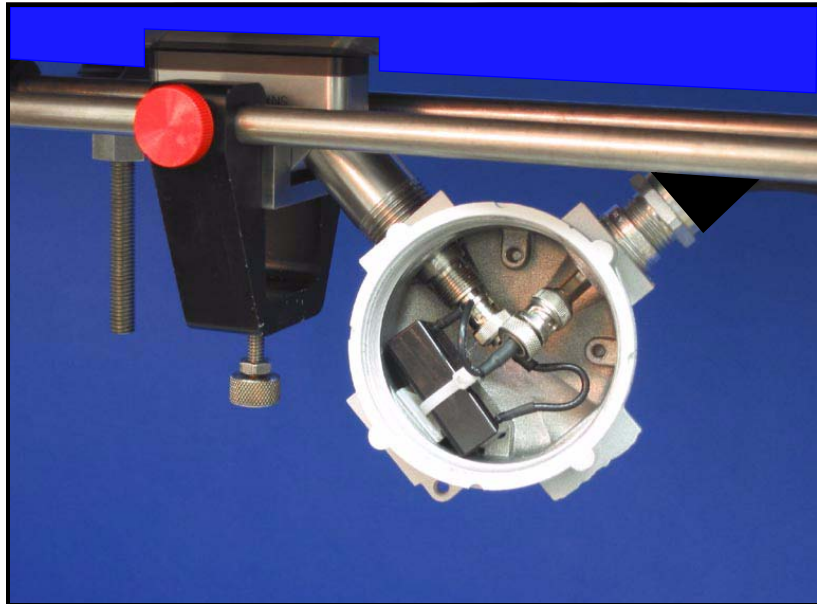

Figure 2-15: Receive Transducer with Preamplifier
2. Using a second pair of BNC to BNC coaxial cables, connect the preamplifiers (attached to the receiver transducers) to RX1 (Upstream Receiver) and RX2 (Downstream Receiver) in the electronics console (refer to Figure 2-15 and Figure 2-16 on page 2-28).